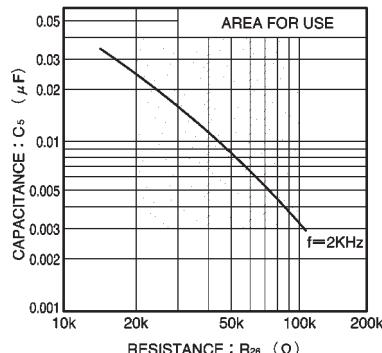

Fig. 7 Value of external components for oscillator ($V_{cc} = 5.0\text{V}$)
3) The external resistor R₂₆ connected to the oscillator (pin 30) should be in the range of 20kΩ and 100kΩ. If it is outside this range, oscillation may stop due to the influence of temperature (see Fig. 7).